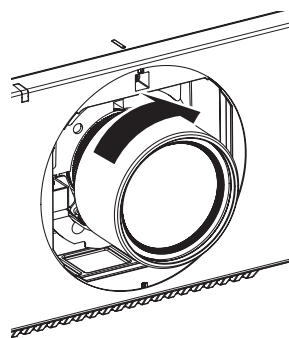

Fig. 2
2) Turn the projection lens clockwise until it clicks. (Fig. 2)